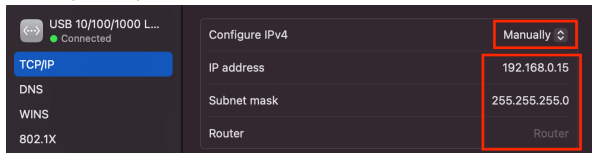

Figure 13
7. Set the following settings. Click **OK** when ready. (Figure 13)